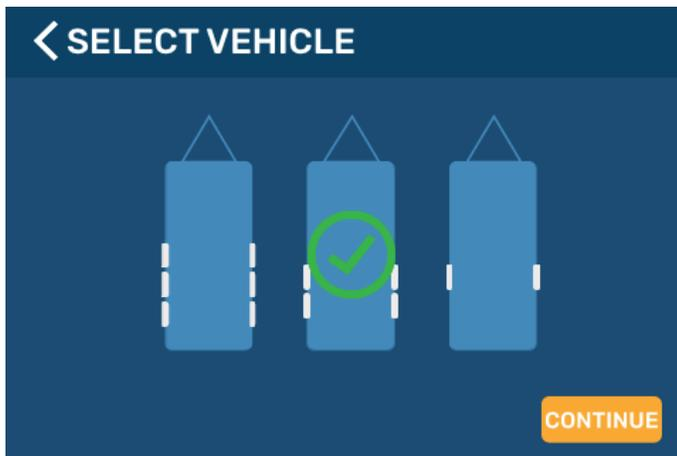

Fig.8
8. Select the type of vehicle to be set up by choosing one of the pictures shown on the display (Fig.8) and tap CONTINUE.